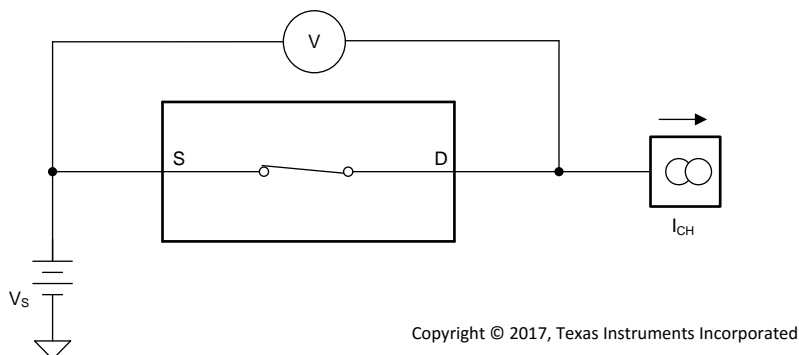

Figure 1. On-Resistance Measurement Setup
The on-resistance of the TMUX6104 is the ohmic resistance across the source (Sx) and drain (D) pins of the device. The on-resistance varies with input voltage and supply voltage. The symbol R_{ON} is used to denote on-resistance. The measurement setup used to measure R_{ON} is shown in Figure 1. Voltage (V) and current (I_{CH}) are measured using this setup, and R_{ON} is computed as shown in Equation 1: